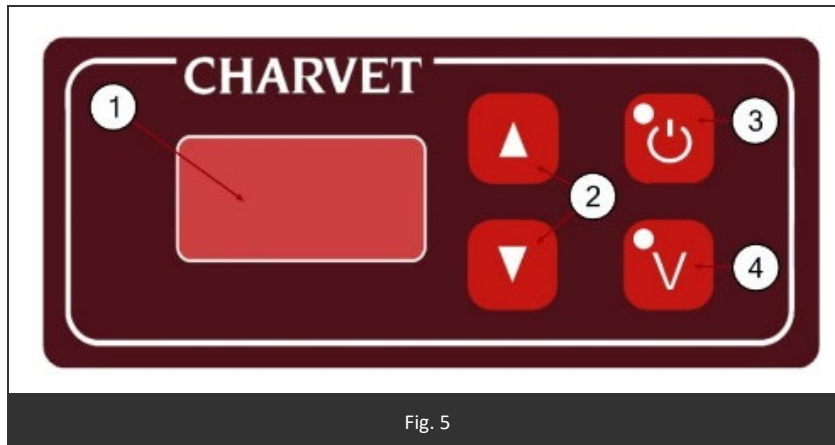

Fig. 5
- Turn on the appliance (Fig. 5 Item 3), the green indicator light comes on to confirm that it has been turned on.
- Select a heating temperature (Fig. 5 Item 2), the digital display comes on (Fig. 5 Item 1), confirming that heating has begun.
- Press V (Fig. 5 Item 4) to start the stirrer.